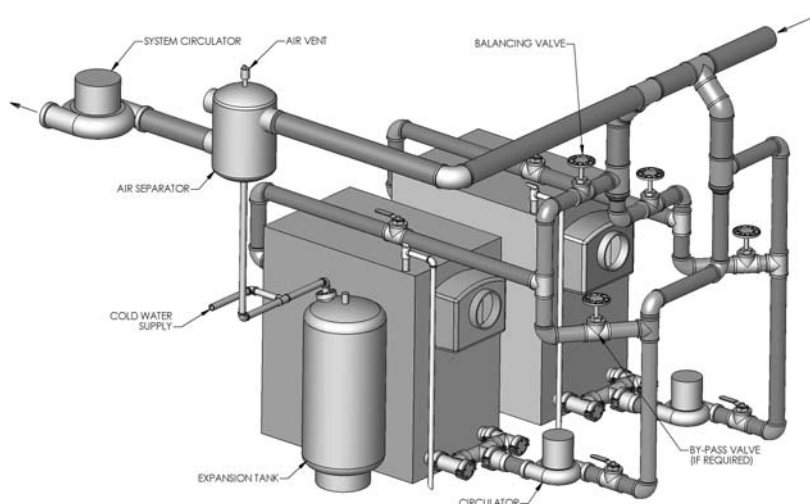

Figure 3.9: Multiple Water Boiler Piping
1. Figure 3.9 shows a typical piping arrangement for multiple water boilers. The optional bypass valve is used when the system return water temperature is consistently below 130°F [54°C] for gas boilers or 150°F [66°C] for oil boilers.